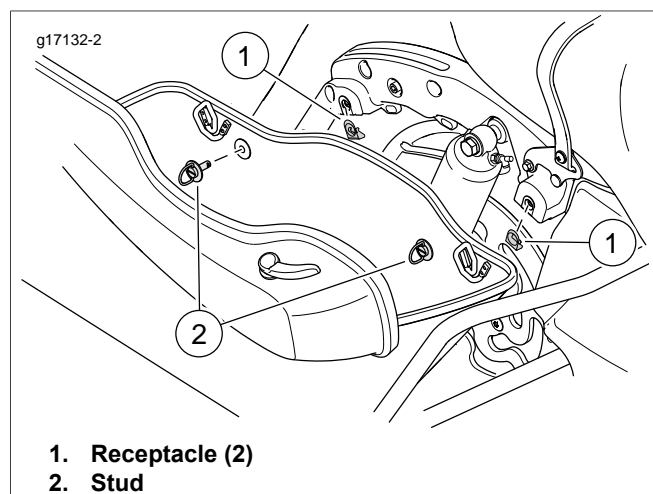

Figure 2. Saddlebag Stud Receptacles
- See Figure 2. Remove saddlebags.
- Remove receptacles (1).
- Install saddlebags using original studs (2) and washers.